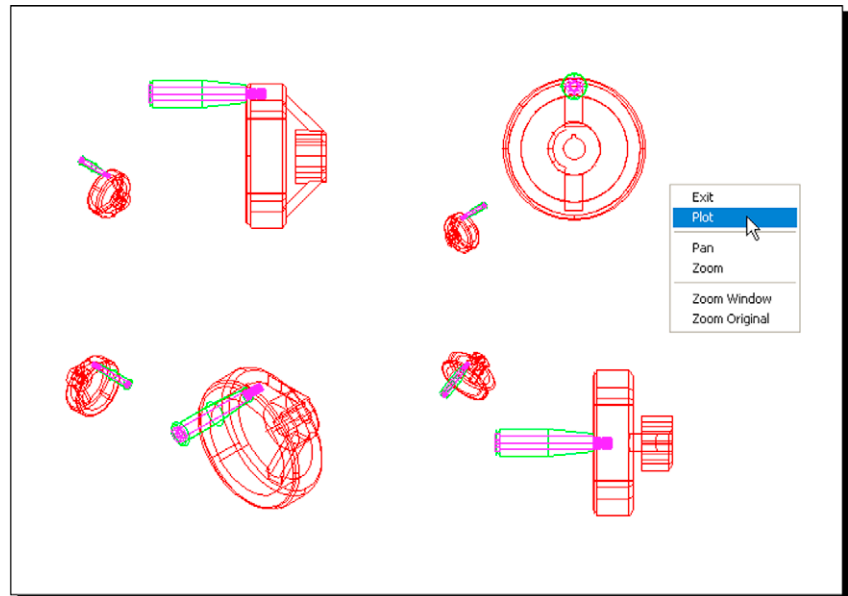

Fig. 19.15 Polygonal viewports – plot preview after vports layer is off
12. Click the **Plot** icon. Make plot settings in the **Plot** dialog. Click on the **Preview** button of the **Plot** dialog. The **Preview** appears (Fig. 19.15).